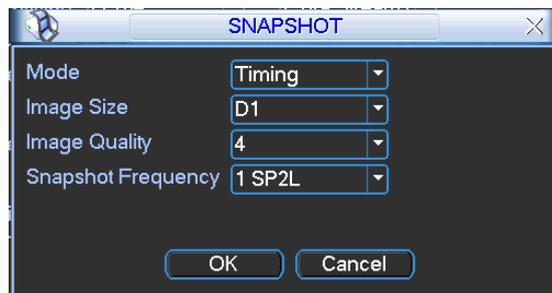

Figure 5-8
- Snapshot: Click snapshot button, you can see an interface is shown as in Figure 5-8.